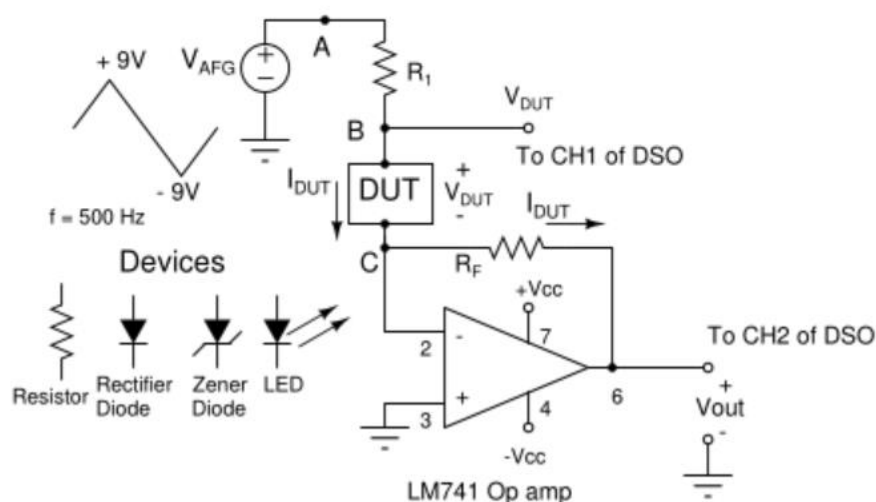

Fig. 4 LM741 Op amp based current-to-voltage converter for obtaining the V-I characteristics of diodes
The circuit diagram to be used for plotting the V-I characteristics of diodes is shown in Fig. 4. Following are the major blocks of the circuit.
In Fig. 4, the resistance R_1 is used as a current-limiting resistance. We shall choose $R_1 = 1\text{ k}\Omega$ to limit the maximum current to roughly 8 mA. Almost the entire current (I_{DUT}) will flow from the inverting input terminal through R_F to the V_{out} terminal of the Op amp. Hence, $V_{out} = -I_{DUT} R_F$. We shall choose $R_F = 1\text{ k}\Omega$. Thus, a device current of 1 mA will make $V_{out} = -1\text{ V}$.
- Wire the current-to-voltage converter circuit shown in Fig.4. Note that with reference to Fig.4, $I_{DUT} = I_{Res}$; $V_{DUT} = V_{Res}$.
- Observe the XY plot of the given IN4007 Rectifier diode. With reference to Fig.4, the voltage across the diode (V_{DUT}) is the X waveform (CH1) and the current through the diode (I_{DUT}) is the Y waveform (CH2).